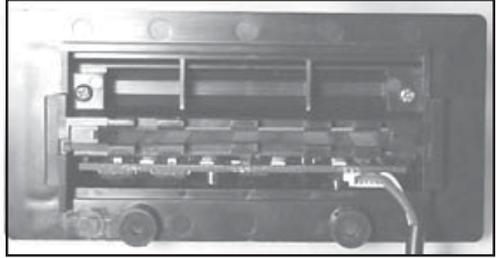

Figure 4
6. Slide the circuit board into the SENTRY face plate (see Figure 4).